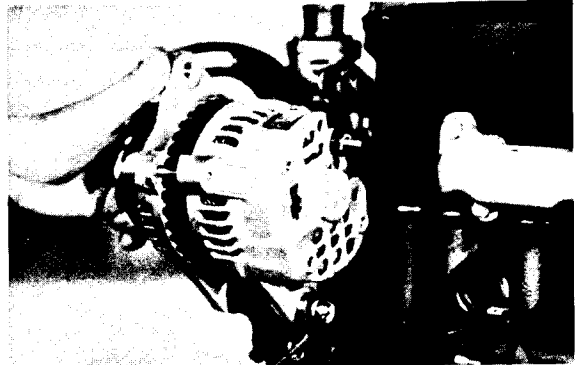

Figure 42
4. Loosen alternator brace bolt and alternator support bolt (Fig. 42). Push the alternator toward the engine and remove the belt.